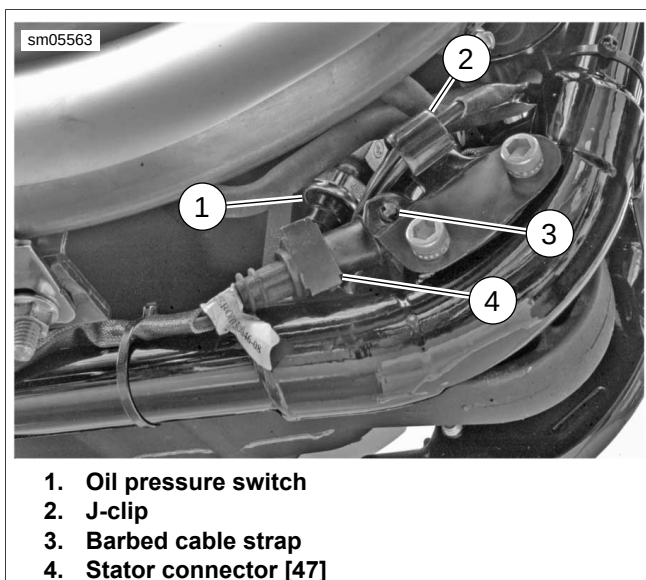

Figure 6-132. Oil Pressure Switch: XR 1200X
3. **XR 1200X:** See Figure 6-132. Disconnect voltage regulator stator connector (4). Reposition neutral switch wire and voltage regulator stator wire as needed.
4. **XR 1200X:** See Figure 6-132.
- b. Secure stator connector (4) to bracket with barbed cable strap (3) and make sure neutral switch wire and oil pressure switch wires are secured in J-clip (2).